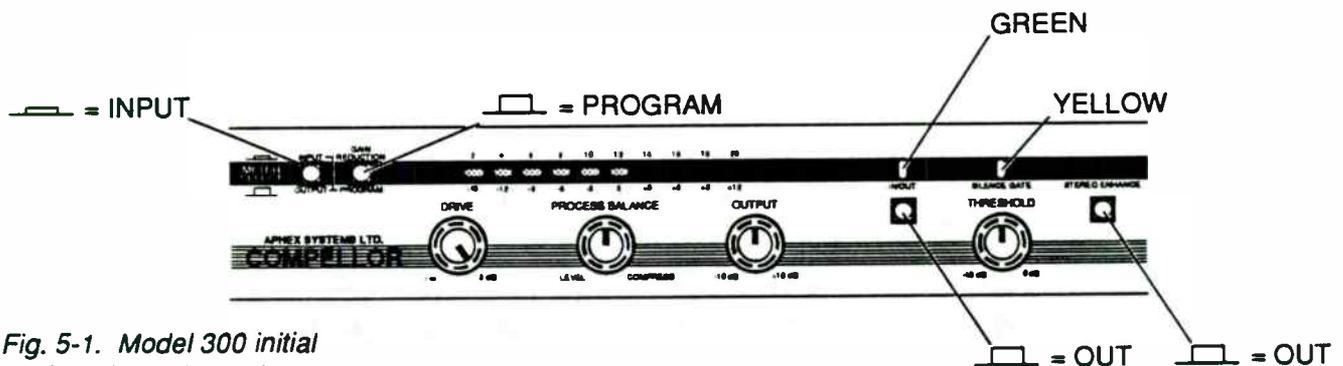

Fig. 5-1. Model 300 initial settings (one channel shown). DRIVE is initially set at full clockwise position.
1. Send a 0 VU tone to the COMPELLOR. Set the METER SELECT switches to PROGRAM and INPUT. Adjust the COMPELLOR controls to match the initial settings shown in Fig. 5-1. You should observe a 0 VU indication on the meter. If not, refer to INSTALLATION (Section 3.0) for details.